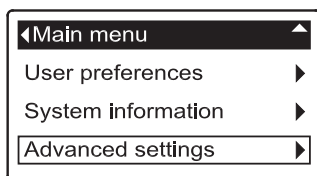

FIG. 133
1. From any of the rolling status screens, press the SELECT (O) button to display the **Main menu**.
2. Press the DOWN (▼) button to scroll through the menu options until **Advanced settings** is highlighted (See Figure 133).